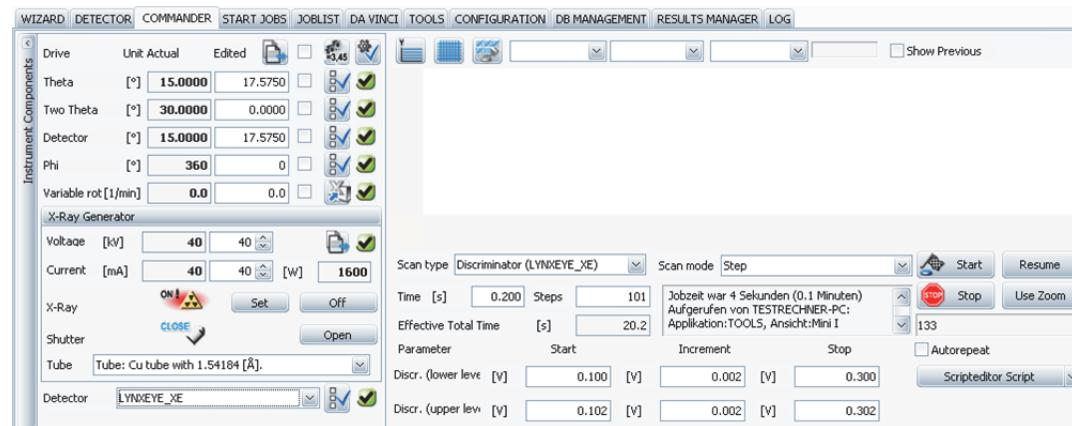

Figure 3.3: Example of measurement parameters for DISCRIMINATOR scan
4. Figure 3.3 shows an example of a measurement parameter set suitable for a discriminator scan using Cu radiation and the backside of a PMMA sample (2mm divergence,  $2.5^\circ$  prim Soller, Ni-filter). The fields show the selected settings for the measurement, the smallest increment is 0.002V.